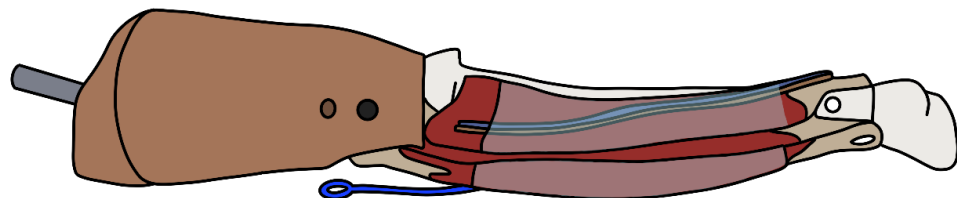

Figure 12. Deep Posterior Compartment Attachment
- i. Deep Posterior Compartment (#1) - will be attached to the metal hook on the top and peg #1 on the bottom (**Figure 12**).